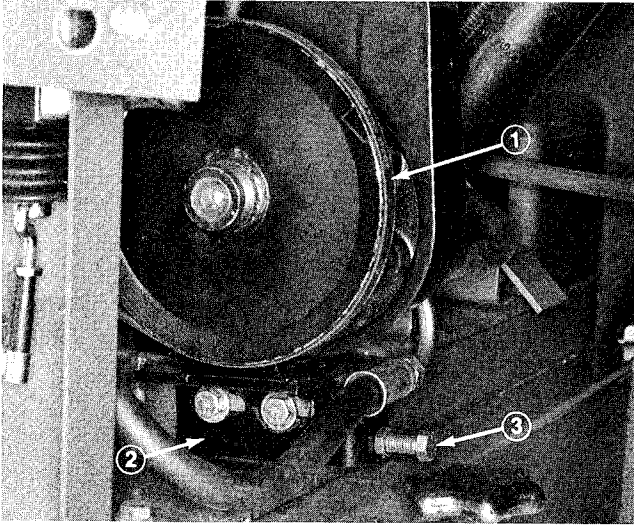

Figure 38
1. The belt tension on the hydraulic pump (Fig. 38) must have a maximum deflection of $5/32$ of an inch with a 2 to 3 pound load applied.
- B. To adjust tension, loosen (2) capscrews securing pump support bracket to chassis (Fig. 38).